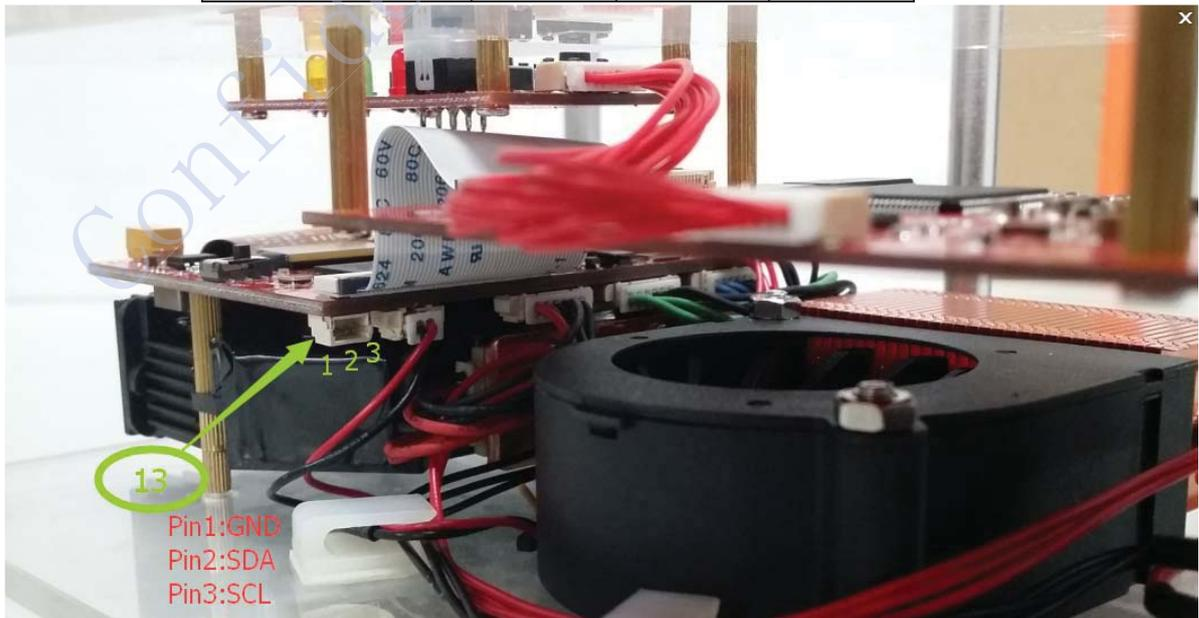

Figure 5 I2C Interface
⑬ DLPC3438 I2C interface: DLPC3438 as a I2C slave device, it can be connected to the external MCU or DLP Composer for command and control.
In figure 5, ⑬ is the I2C interface connected to DLPC3438, the Pin definition as the following table.
J4 is the I2C interface on DeVaSys USB-I2CIO board. Connect SCL, SDA and GND respectively between J4 and terminal ⑬ on figure 5, and then connect computer and DeVaSys USB-I2CIO board with USB Cable. Thus, the connection between DLPC3438 and DLP Composer via DeVaSys USB-I2CIO, can be realized communication.